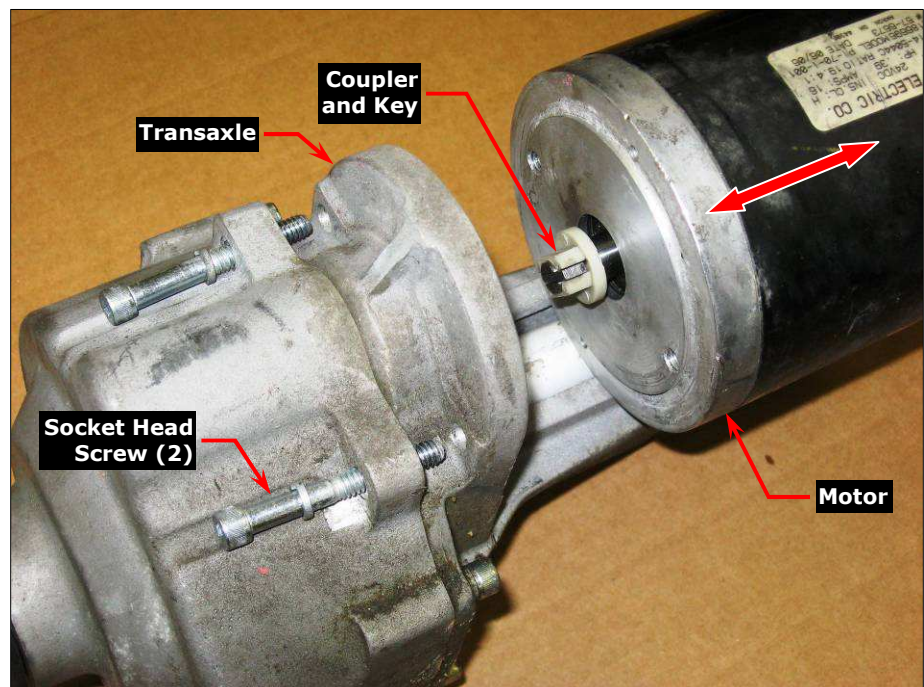

Figure 3 – Transaxle Motor Replacement
1. **See Figure 3.** Remove the two **Socket Head Screws** (3/16" hex wrench) holding the **Motor** to the **Transaxle**, lift the rear of the **Motor** slightly so it clears the machined cutout in the **Transaxle**, then remove the **Motor** from the **Transaxle**.